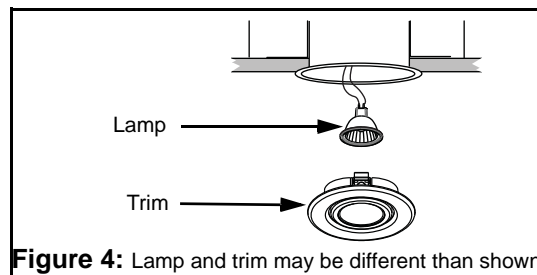

Figure 4: Lamp and trim may be different than shown
10. Install the lamp and trim according to the instructions provided with the trim plate (see fig. 4) (refer to label inside the can for maximum wattage).
8. Adjust the height of the can, if needed, by loosening the screws inside the can and align the lip to the sheet rock or ceiling panel (see fig. 4).